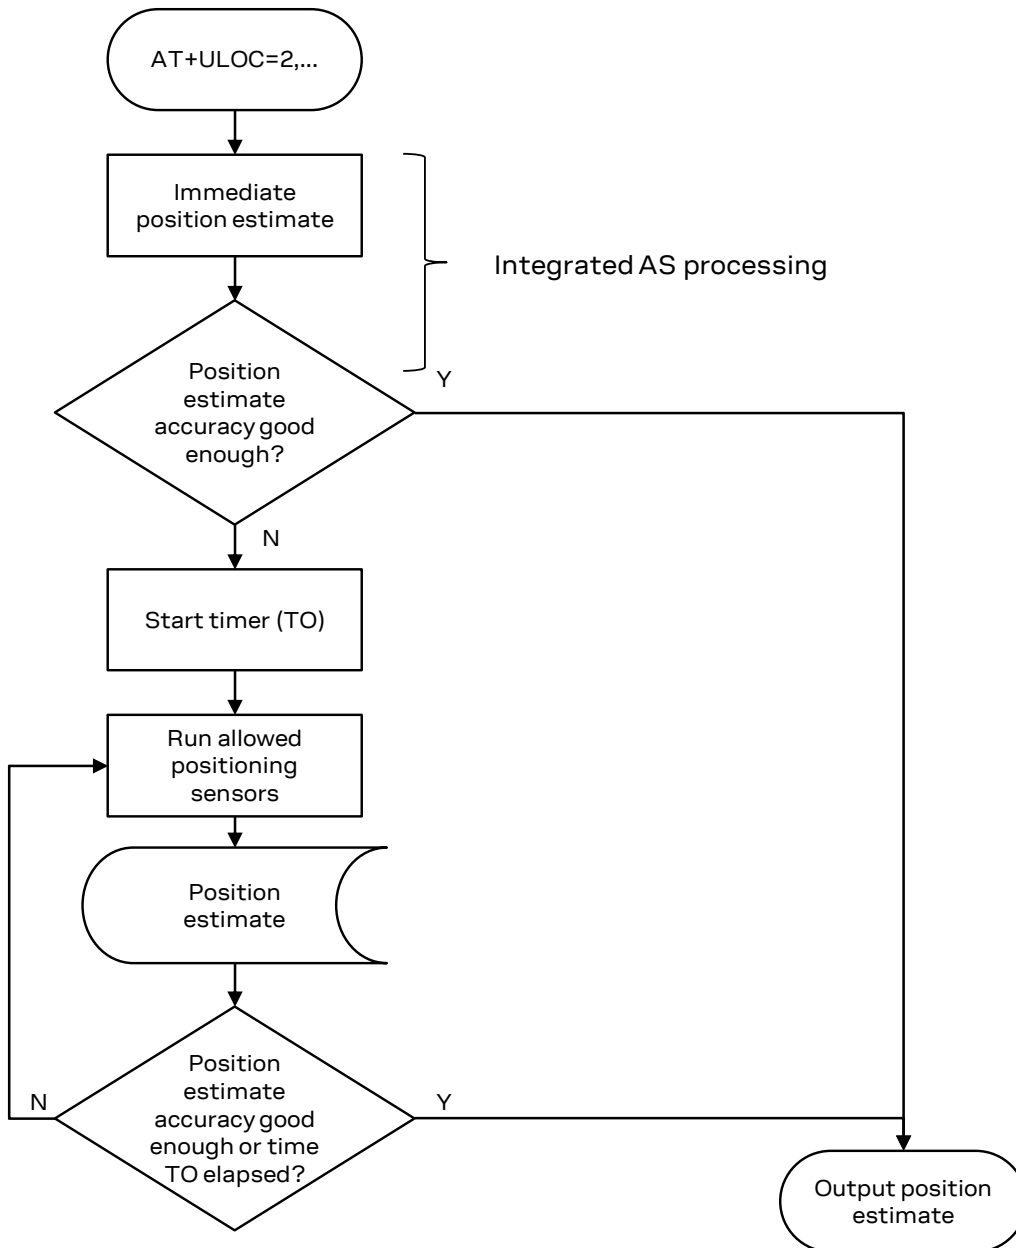

Figure 39: Hybrid positioning flow diagram
Figure 39 shows the general flow of the hybrid positioning function producing a position estimate.
- To get a position estimate with the minimum energy consumption, for maximum battery life, set a large desired accuracy figure for the hybrid positioning, e.g. 1 km, (see the Figure 39, most likely the AS sensor position degraded or the GNSS one will be quickly returned if the time spent is below 30 s)